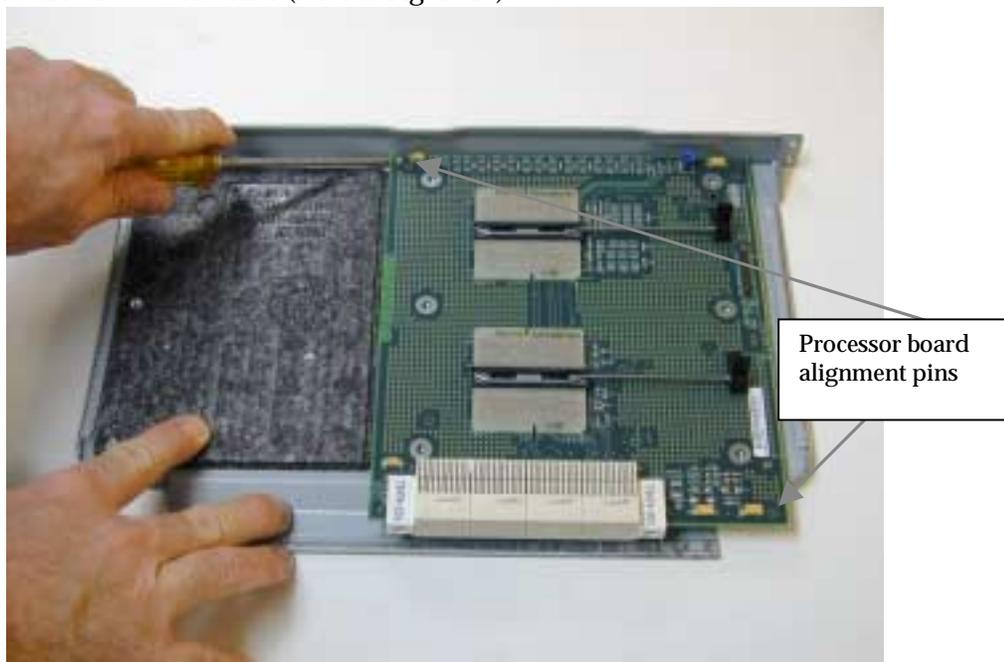

Figure 19 Processor board with retention device removed
8. Once the retaining device has been removed, the processor board can be easily disengaged from the processor backing plate alignment pins, by applying a small amount of leverage with a screwdriver to each corner (refer to Figure 19).